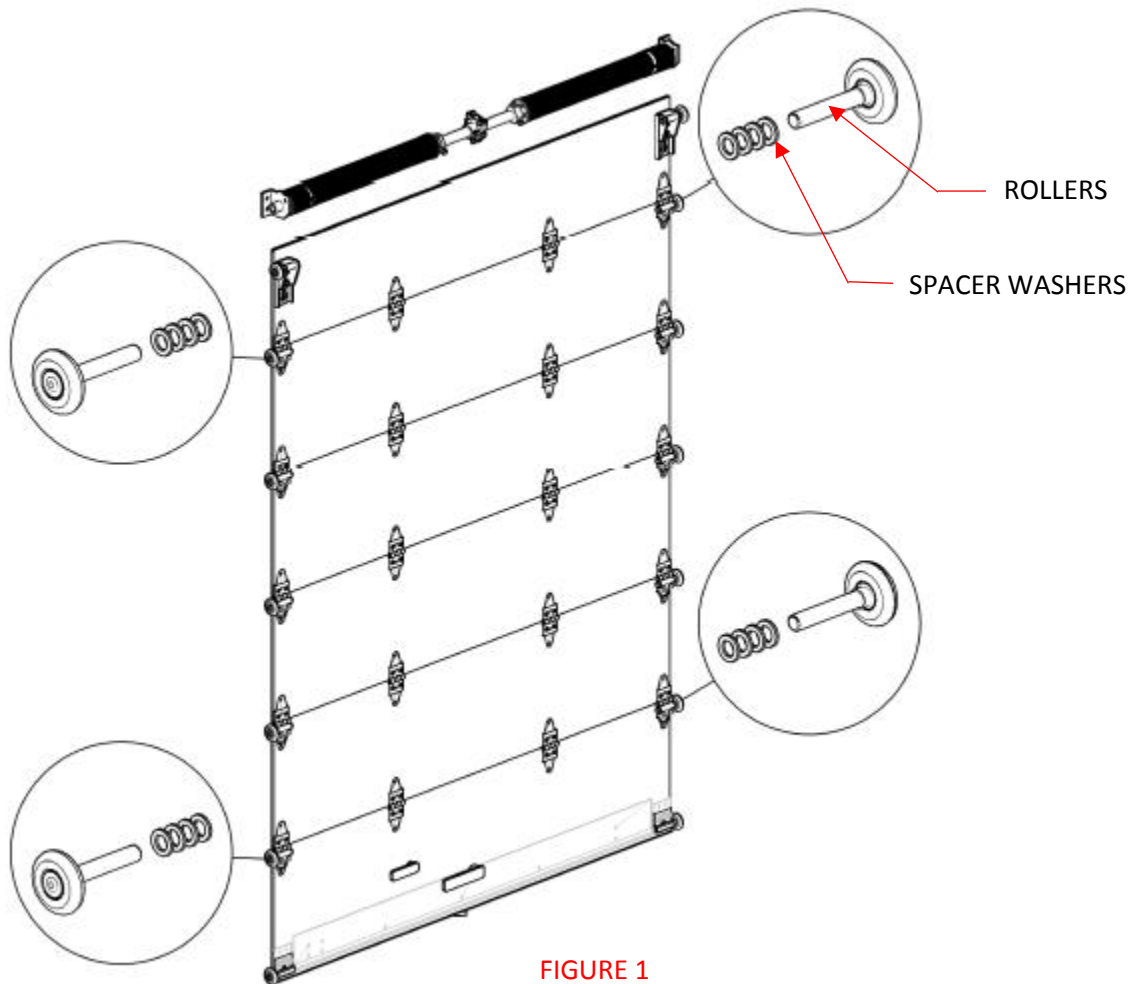

FIGURE 1
4. Are the spacer washers installed at the 1st Intermediate hinge and the last intermediate hinge on both sides? (4 required per roller by door design, but NO less than 3 per roller to keep the door from contacting the track). (See Figure 1).